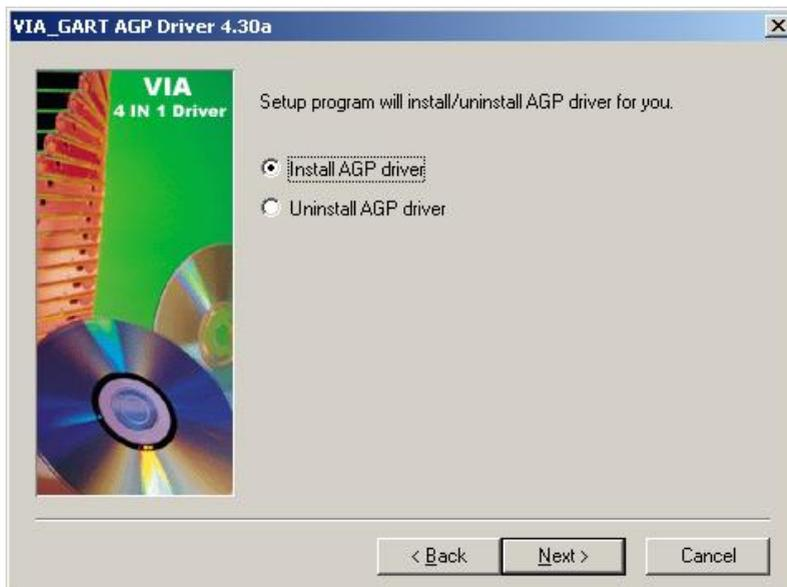

Figure 7-8: AGP Driver Selection
Step 9: The setup then prompts the user (see **Figure 7-8**) if the AGP driver must be installed on the system. Select install or uninstall. Click “**NEXT**” to continue.